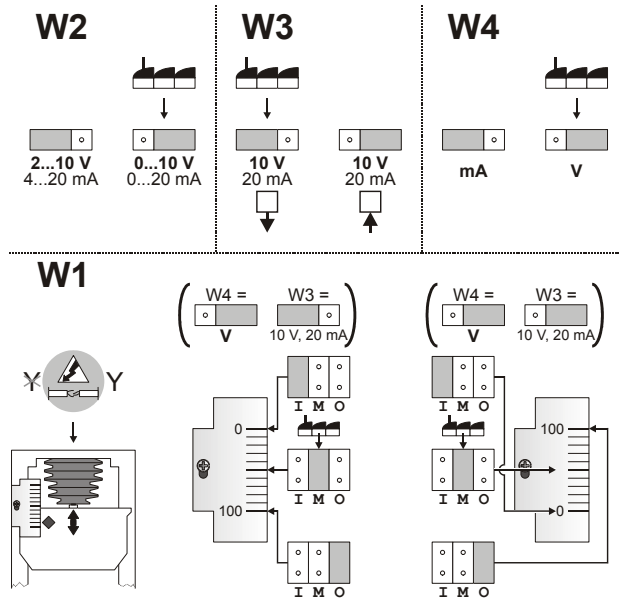

Fig. 2. Effects of jumper plugs W1, W2, W3, W4
The Vdc- or mA-input signal is selected by shifting jumper plug W4 (see Fig. 2). The factory setting of W4 is "Vdc". No external resistor for mA-input signal is necessary.
**NOTE:** Jumper plugs W1, W2, W3, and W4 are accessible after the cover has been removed. They are located on top side of the printed circuit board (see Fig. 2).